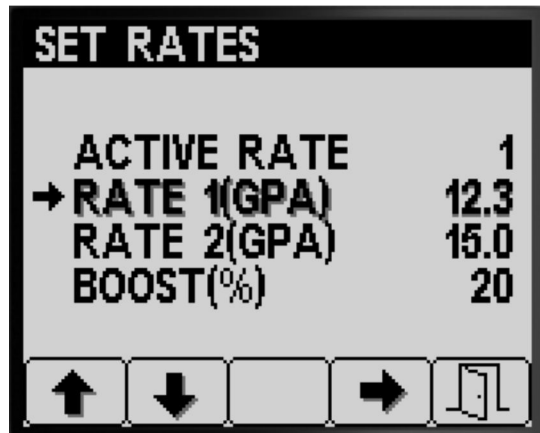

Figure 6
1. Press button 1 or 2 to navigate to the RATE 1 or RATE 2 options (Figure 6).
2. Press button 4 to select the sprayer RATE option (Figure 6).